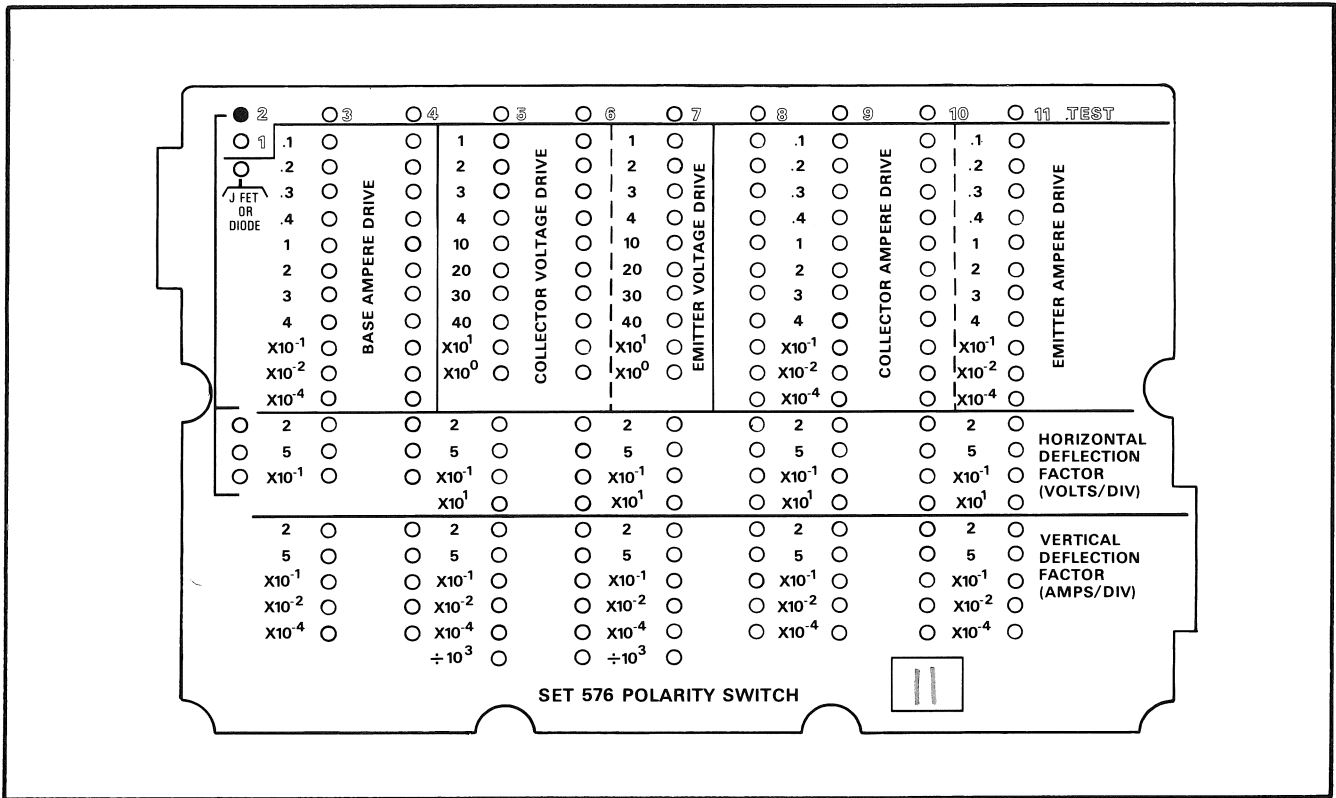

Fig. 5-11. Program 11.
e. Install a program card containing program 11 (Fig. 5-11) in the card reader.